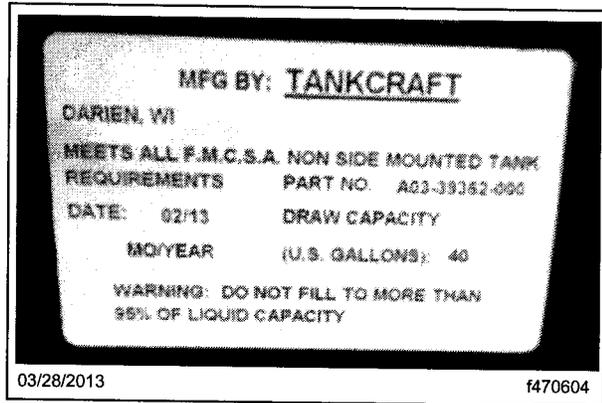

Fig. 2, Manufacturer's Label
- 16.2 Take the required photos and attach them to the claim. A clear photo of the manufacturer's label must be included, see **Fig. 2**